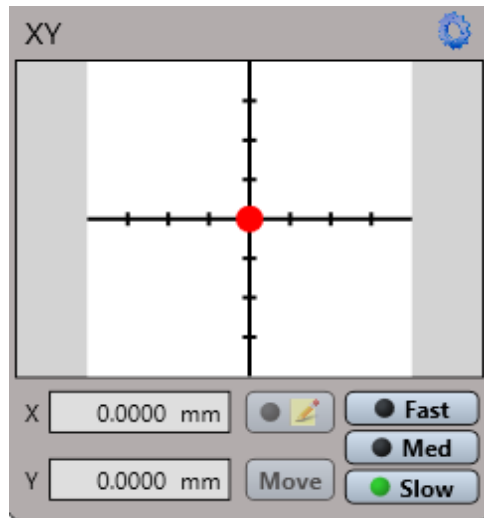
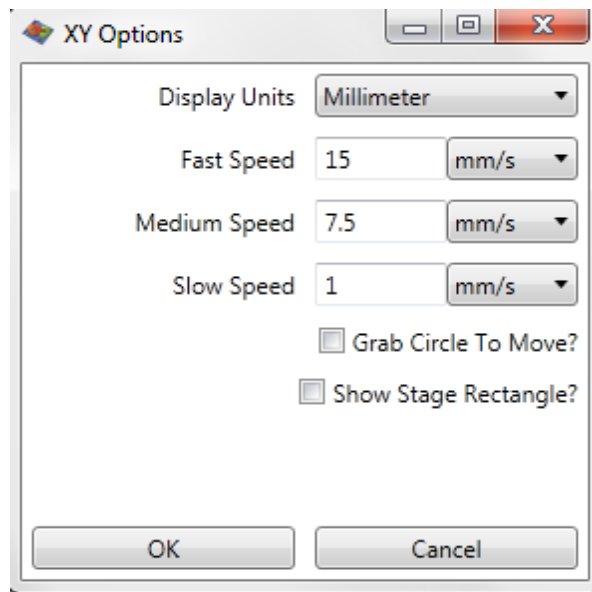

Figure 3-10: X-Y Stage Control Panel
Figure 3-11: X/Y Options Dialog Box
- 1 In the X-Y Control Panel in the Live Video Display (see Figure 3-10), click the blue Gear icon in the upper right corner to enter the select the units as well as the speeds for Fast, Medium, and Slow (see Figure 3-11). If you select the **Grab Circle to Move** check box, you must grab the red circle in the middle of the X-Y Control Panel before you can adjust the X/Y position of the motorized stage. When your settings are complete, click **OK**.